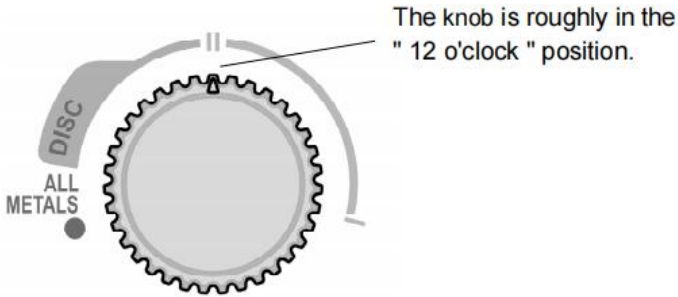

Figure 10. The ALL METALS/DISC Knob
1. To prevent the detector from detecting iron metals, set the ALL METALS/DISC knob to about " 12 o'clock ". See Figure 10.